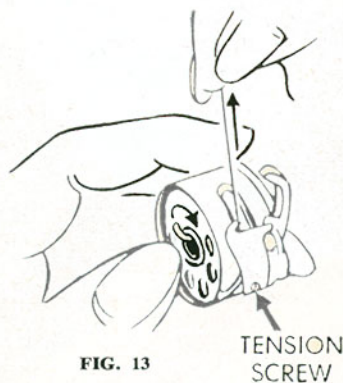

FIG. 13
The thread should now pull freely from the delivery eye, but with some slight tension. In order to obtain a perfect stitch, this tension may, from time to time, have to be adjusted. By turning the tension screw (Fig. 13) to the right, this tension may be increased or, to the left, decreased. This adjustment should be made in accordance with the direction on page 14 (Figs. 19, 20 and 21).
- Adjust bobbin thread tension by turning the screw in accordance with the directions on page 9 (Fig. 13).